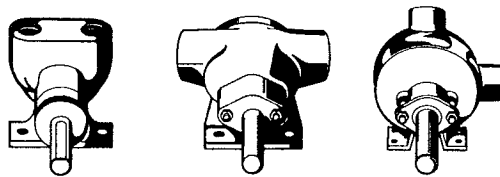
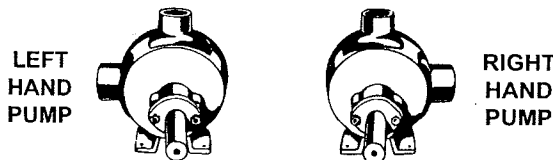

FIGURE 1
FIGURE 2
- Port Arrangement** - since the pumps have different port arrangements depending on the model, port location should be checked before starting the installation. The ports may be upright, opposite or at right angles to each other, see **Figure 1**. The right angle ports are normally right-hand, see **Figure 2**; some models are available with left-hand arrangements; still other models are available with the right angle ports located in any one of eight positions including right-hand and left-hand.